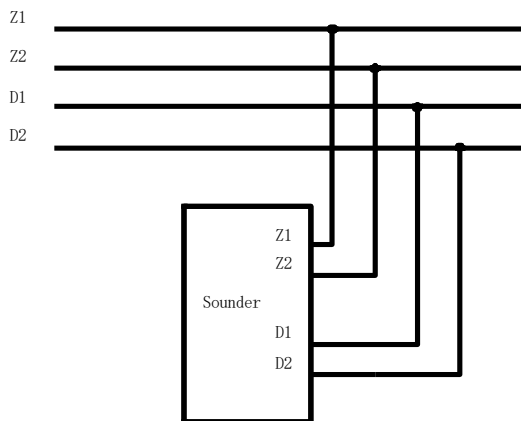

Fig. 6
- Fig. 6 shows that the sounder is supplied by an external 24V power.